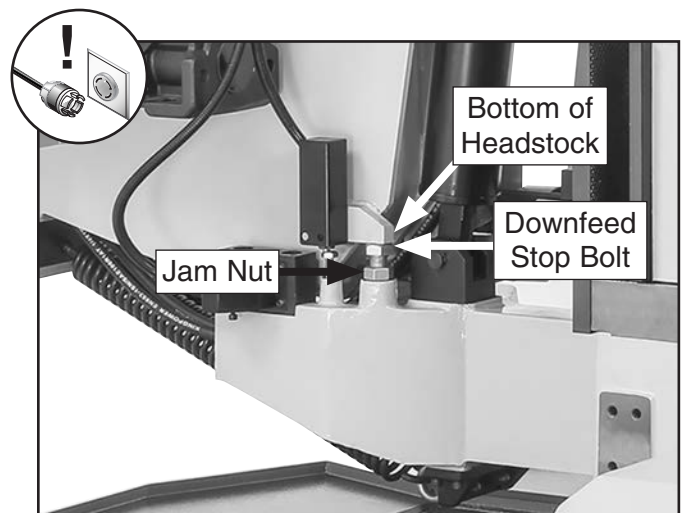

Figure 113. Downfeed stop bolt adjustment components.
- Loosen stop bolt jam nut, then adjust downfeed stop bolt until head of stop bolt contacts bottom of headstock (see **Figure 113**).